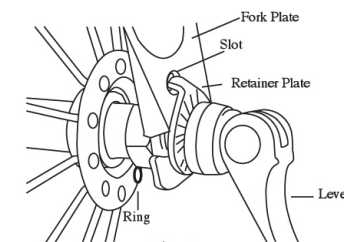

Fig. 3c
- Line up the tab on the Retainer Plate with the Slot on both sides of the forks. (Fig. 3c)